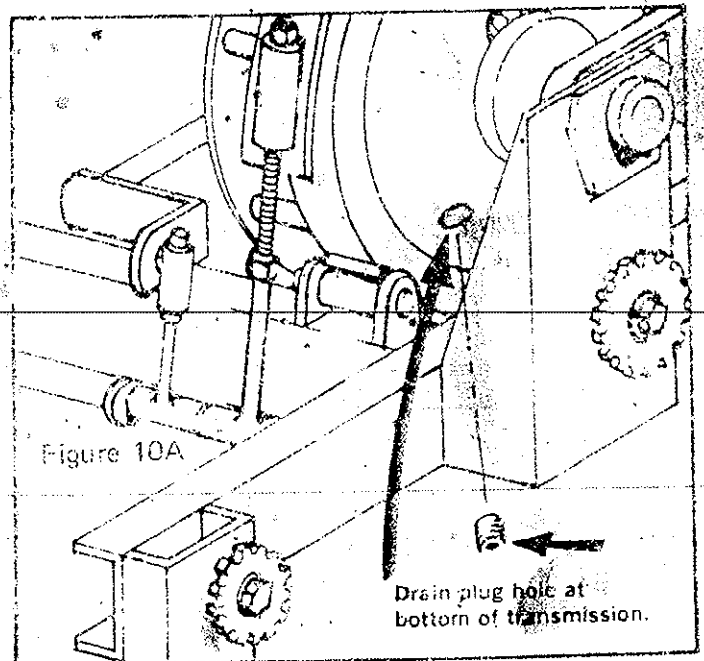

Figure 10A
2. Check transmission planetaries every 25 hours operation. Remove plug and turn to downward position. Oil should then be level with filler hole. Use EP-80-90 Mobil Oil. (See Figure 10A)